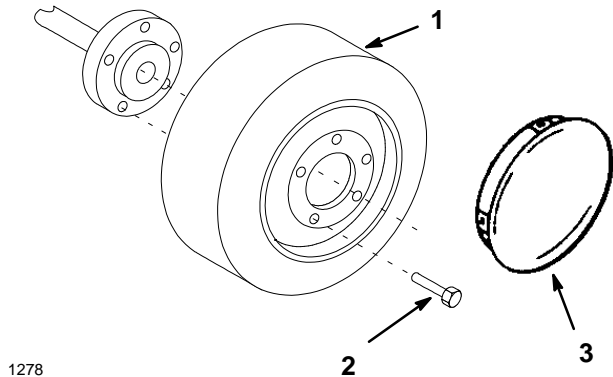

Figure 2
1. Install wheel onto axle with valve stem to the inside (Fig. 2).